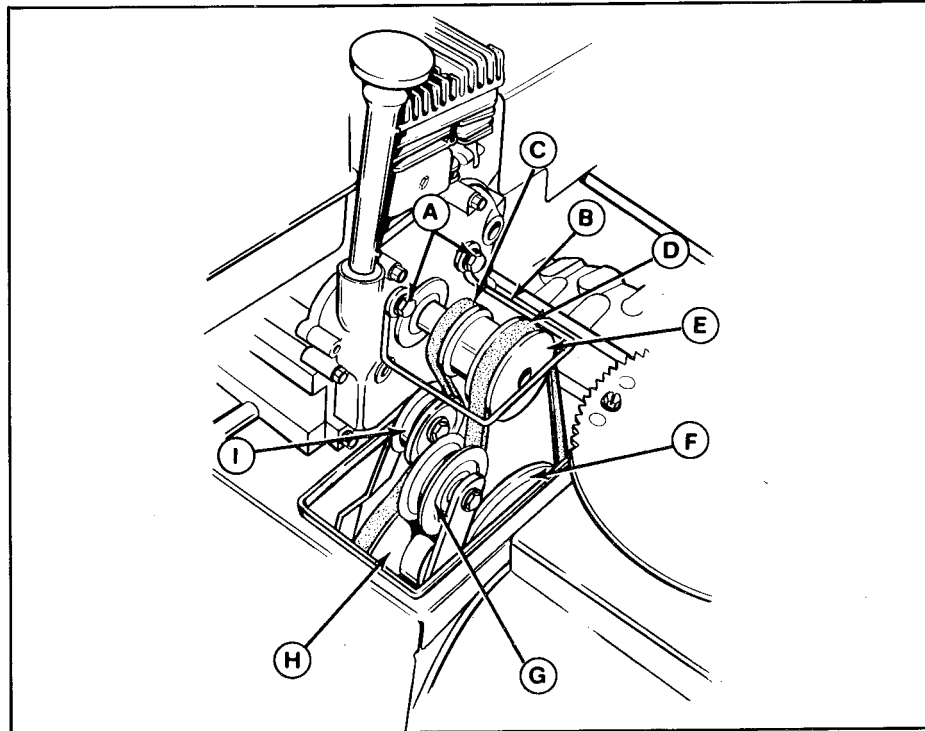

Figure 11. Belts & Pulleys
2. Remove the belt guide (B, figure 11) by removing the two capscrews, lock-washers and plain washers.